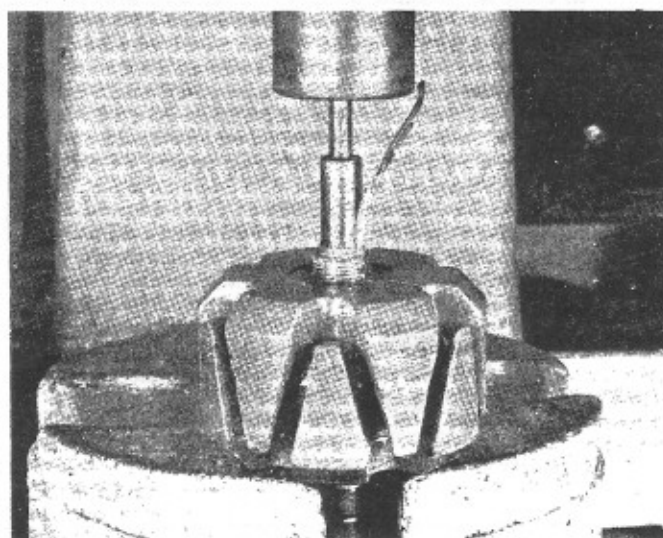

Figure 22
- 5.6 Place rotor assembly in an arbor press and separate shaft from rest of assembly by applying pressure on serrated end of shaft. Fig. 22.